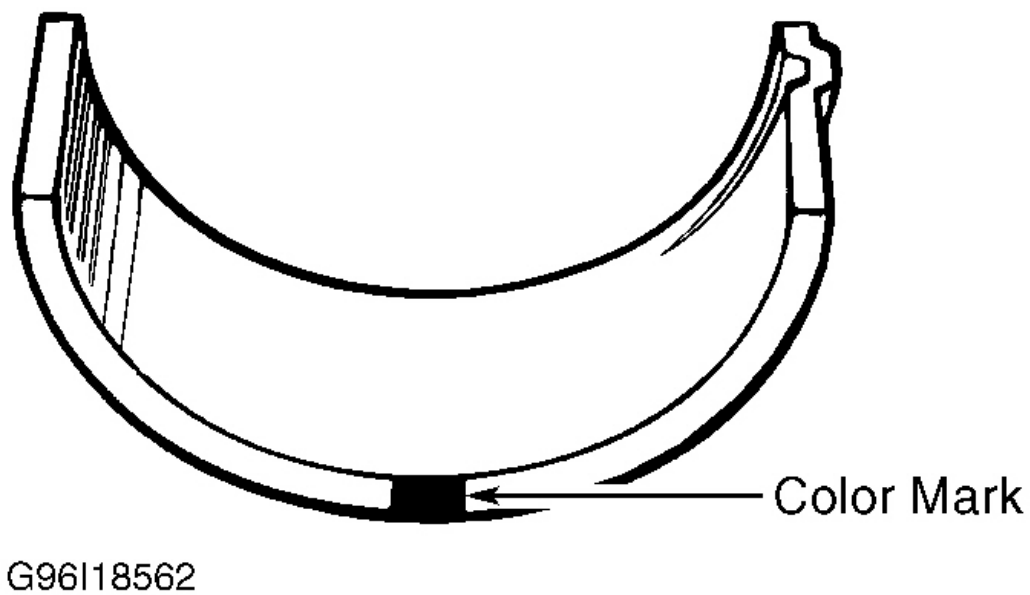
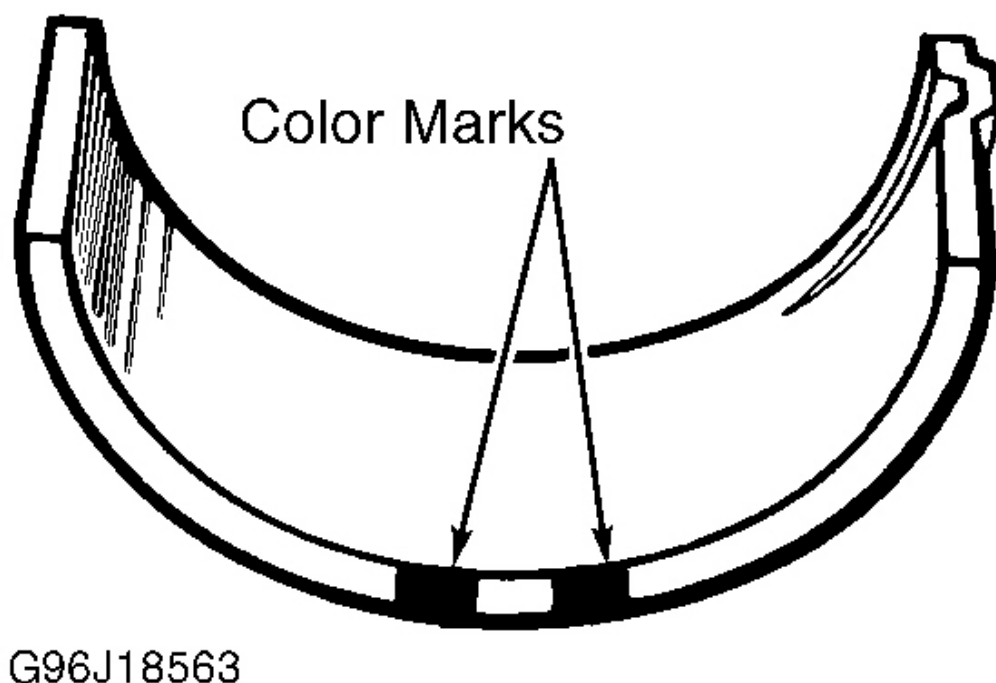

Fig. 15: Identifying Main Bearing Color Codes (Standard Bearing)
Fig. 16: Identifying Main Bearing Color Codes (Undersize Bearing)
4. Standard main bearings are color-coded. See **Fig. 15** and **Fig. 16**. Upper half of bearing has an oil groove. An arrow mark and number are embossed on each main bearing cap.
9. The letters stamped on cylinder block mating surface, reading left to right, indicate cap bore diameters of bearing caps No. 1, 2, 3, 4 and 5, respectively. Five standard main bearing sizes are available. Bearing thickness is determined by color code. See **Fig. 15** and **Fig. 16**. See **COLOR CODE FOR STANDARD BEARINGS** table.
1. Bearings are available in .010" (.25 mm) undersize. Undersize bearing thickness is determined by 2 color marks. See **Fig. 15** and **Fig. 16** . See **COLOR CODE FOR UNDERSIZE BEARINGS** table.